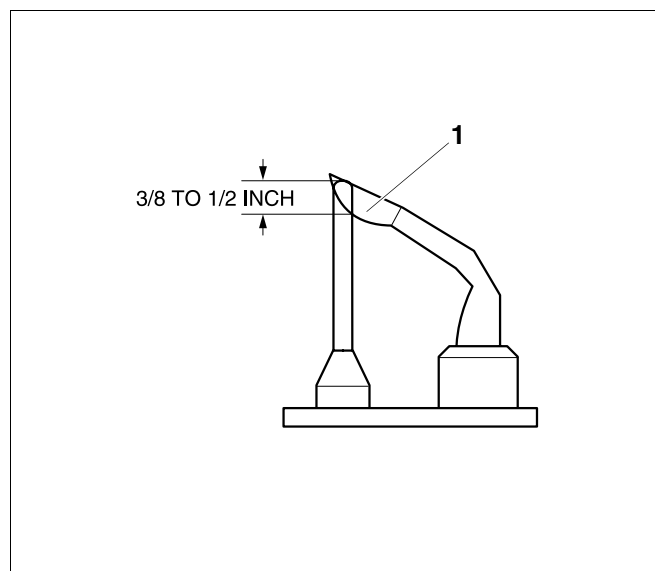

Fig. 36 Correct pilot flame setting
43. Observe pilot flame through the sight glass (→ Fig. 36) in the burner housing.